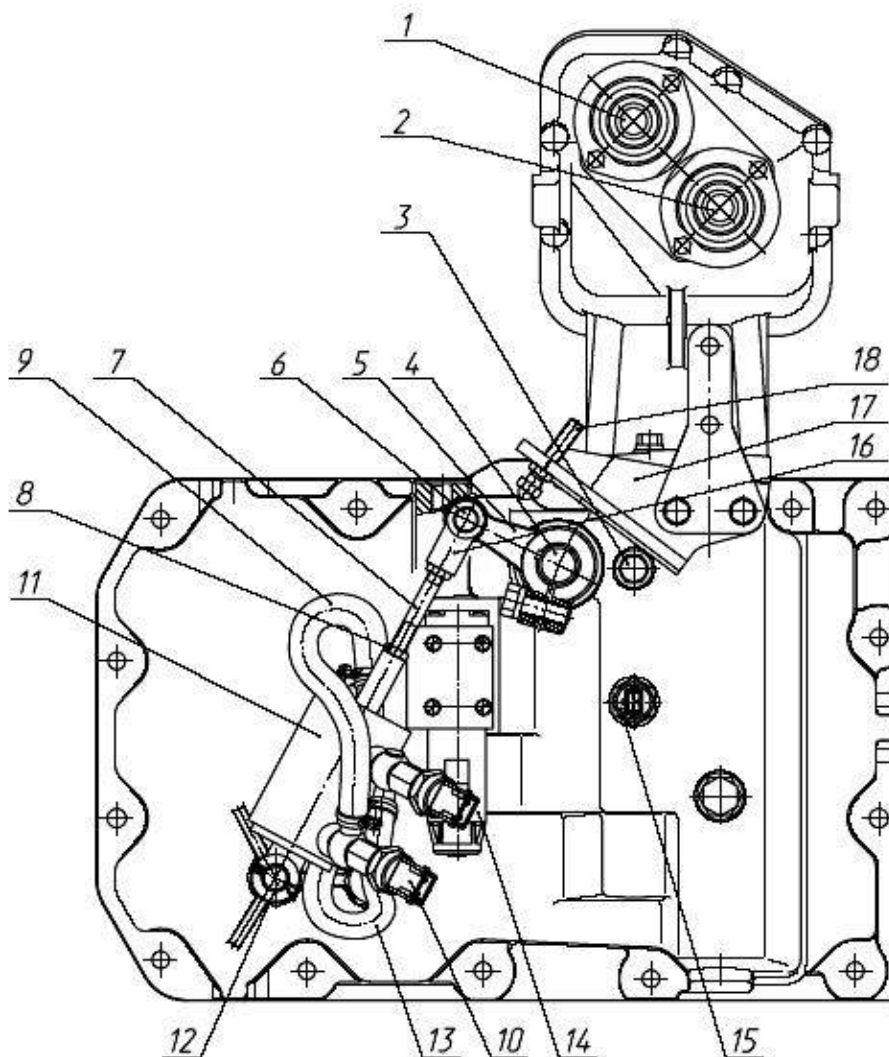
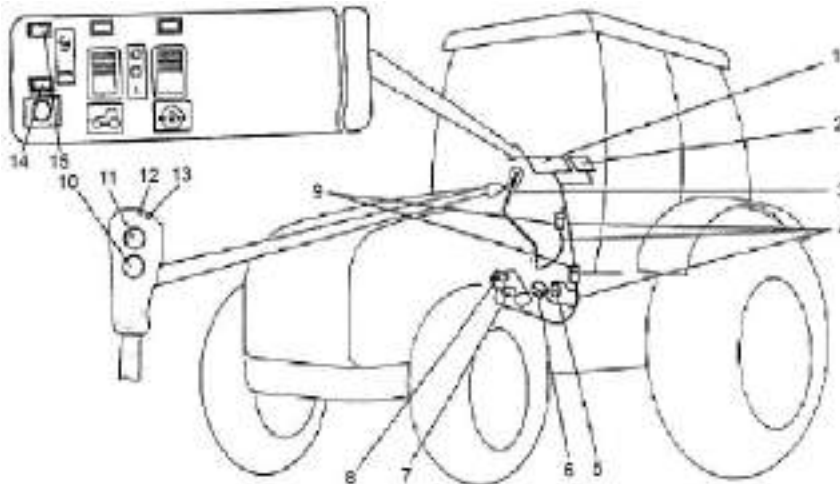

Fig. E-15.5. High-to-low reduction gear stage switch-over mechanism:
Fig. E-15.6
The **high-to-low reduction gear stage switch-over mechanism of the transmission gearbox** (Fig. E-15.5) is mounted on the gear-shift mechanism cover and consists of a cylinder (11) fixed on the axle (12), pusher (7) and lever (5) mounted on the roller (4). The fork (16) is connected with the lever (5) by means of the pin (6). The lever of the roller (4) meshes with the dog of the fork (18) (Fig. E-15.1) and forces the synchronizer (26) coupling to move as the roller rotates. The position of lever (5) is adjusted by
The electro-hydraulic control system (Fig. E-15.6) involves a control panel (1) located in the tractor cab to the right of the driver, a gear-shift and reduction gear stage switch-over lever (3), GB neutral pickup (5), sensors (7 and 8) mounted on the reduction gear switch-over hydraulic cylinder (11) (Fig. E-15.5), electro-hydraulic distributor (6) located atop of the transmission gearbox cover, and connecting cables (4) with terminal blocks (9). The system is supplied with power from the on-board power system through a fuse block (2). Voltage is applied following the engine start-up.